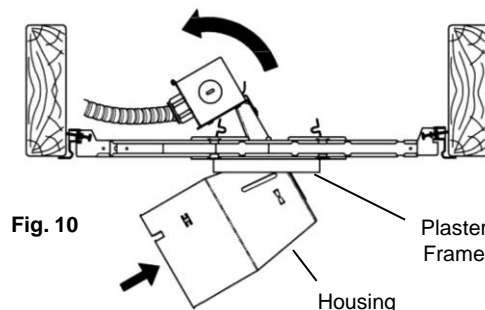
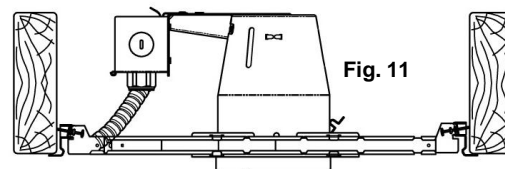

Fig. 10
Fig. 11
6. Slide the housing through the hole opening, as shown. (Fig. 10 & Fig. 11)